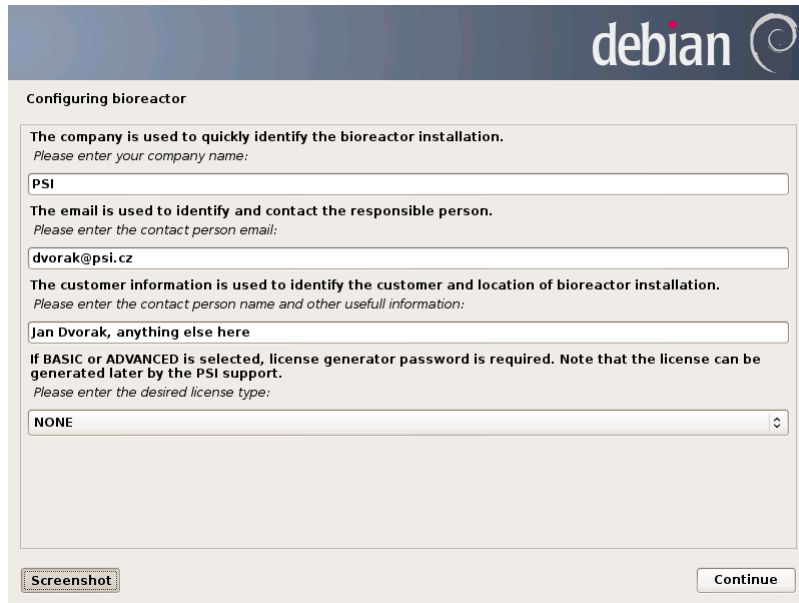

Fig. 61: Customer and license information
- On the next screen enter your company name, email and contact person (Fig. 61). Select license type NONE. The proper license will be delivered by PSI support, see section Install the License File on page 56